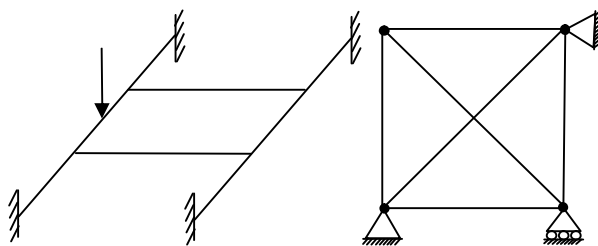
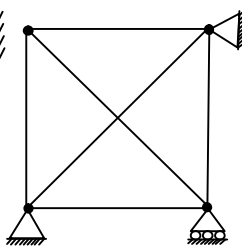

Fig. 1 [Q-1(a)(2)]
Fig. 2 [Q-1(a)(2)]
- Q.1** (a) (1) State and Explain Principle of Superposition. **03**
(2) Find static indeterminacy and kinematic indeterminacy of structures given in **Fig.1** and **Fig.2** **04**